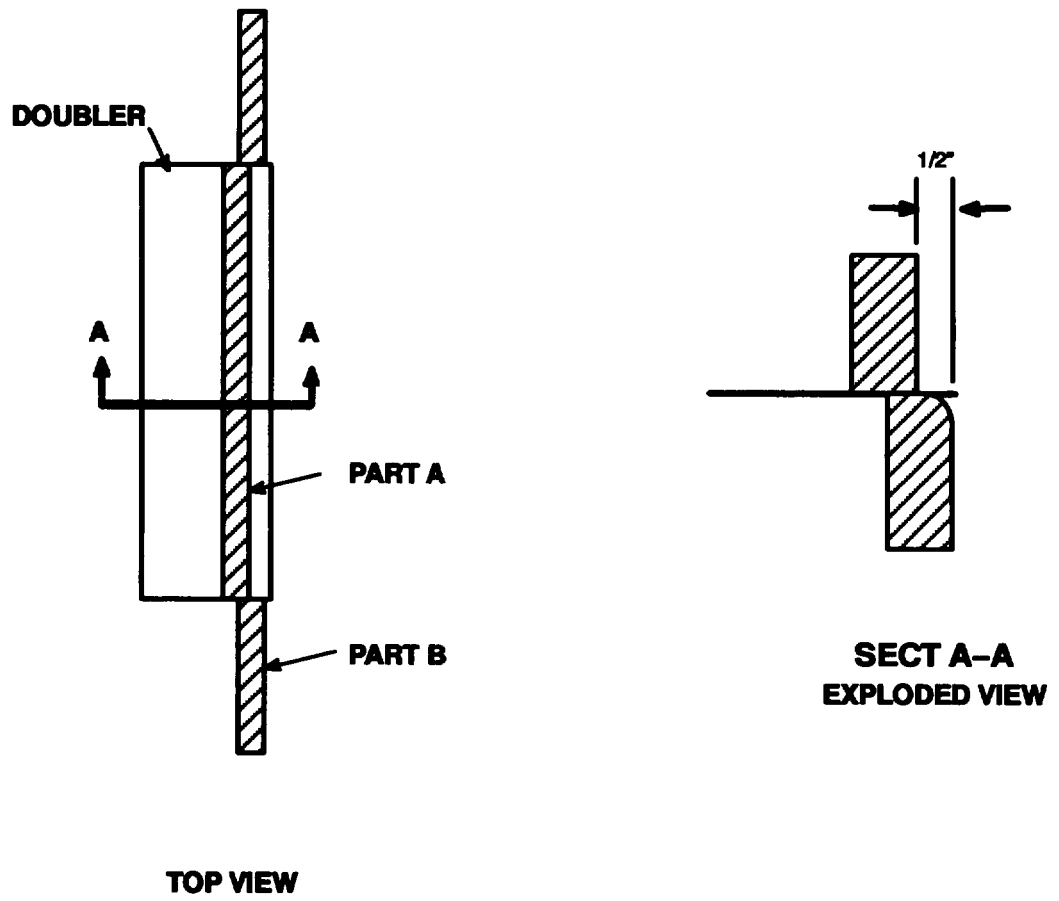

Figure 3. Doubler Fabrication.
- g. Insert metal sheet into forming tool, using Part A of forming tool to complete side bends of doubler. Measure 1/2 inch from Part A to edge of doubler (Figure 3).
- i. Reinstall doubler into forming tool and insert guide pins through assembly. Check for 1/2 inch protrusion of doubler from Part A (Fig. 3) and adjust as necessary.